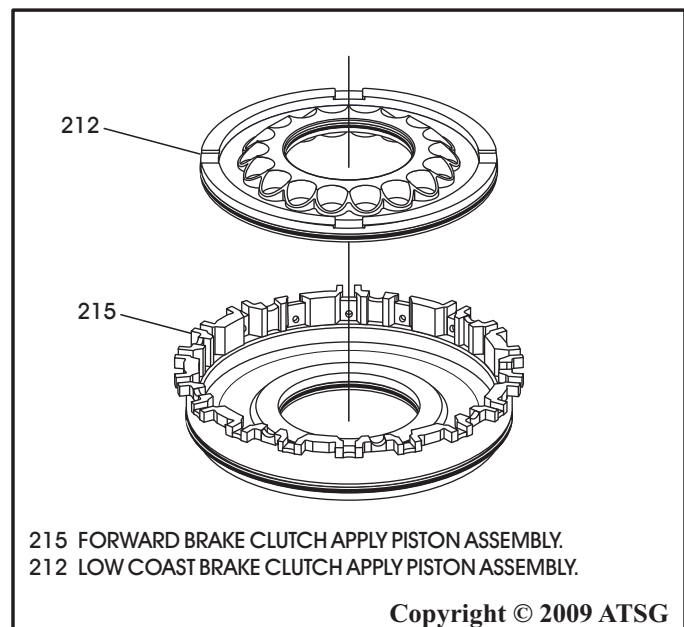

Figure 78
23. Install low coast brake piston into the forward brake clutch piston, as shown in Figure 78.